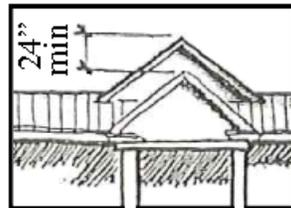

Figure 8
- An additional vertical change in roof height (minimum 24" change in elevation). See Figure 8.